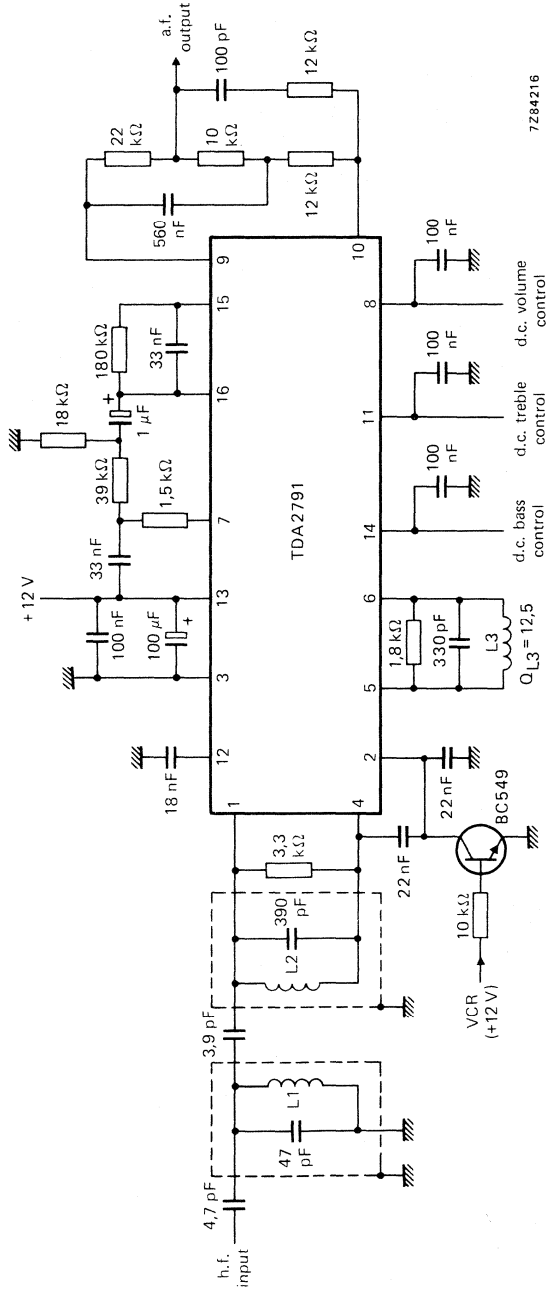

Fig. 9 Application circuit diagram.
Measured in Fig. 9 at  $T_{amb} = 25^{\circ}C$ ;  $V_{13-3} = 12 V$ ;  $f = 5,5 MHz$  (unless otherwise specified)
(1) This is actually the a.f. output voltage as shown in Fig. 9.